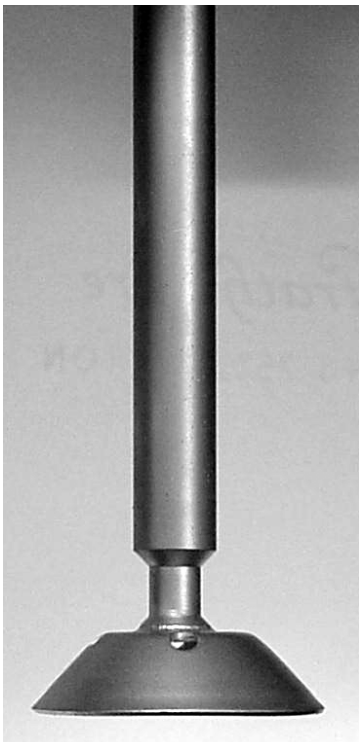

Fig. 9
3. If your machine has a mixer, wipe the mixer shaft and agitator blade (Fig. 9) with the warm detergent solution.